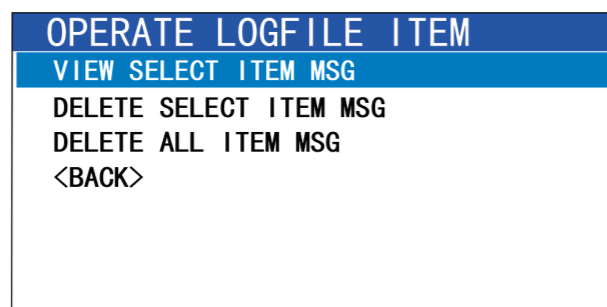

Figure 6.5.2
- c: Rotate the CH/ENT knob to select the call to operate, then press [ENT] to open the call log operation dialog, as shown in Figure 6.5.2.